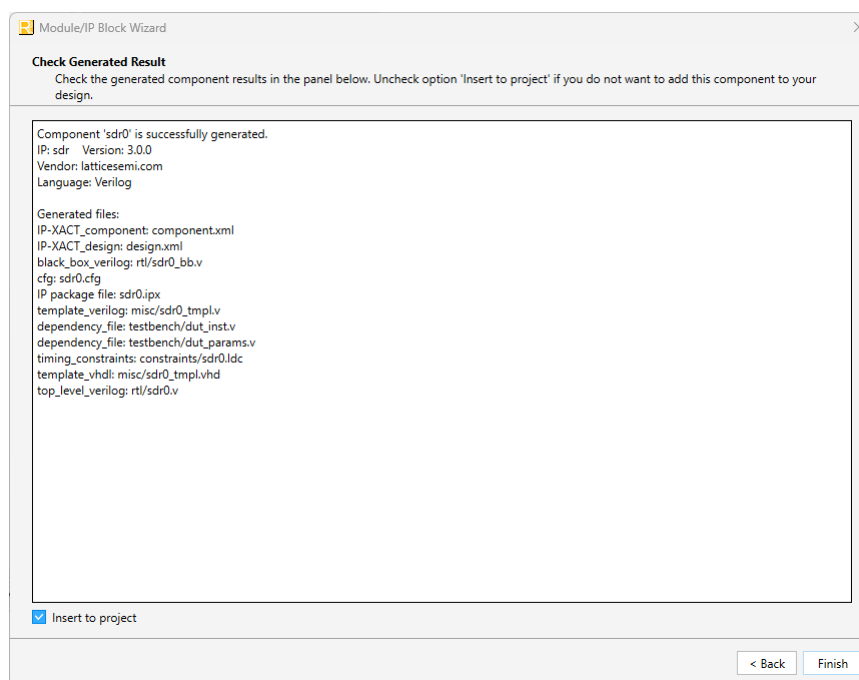

Figure 5.3. Check Generated Result
- Click **Generate**. The **Check Generated Result** windows opens. This window shows design block messages and results as shown in Figure 5.3.